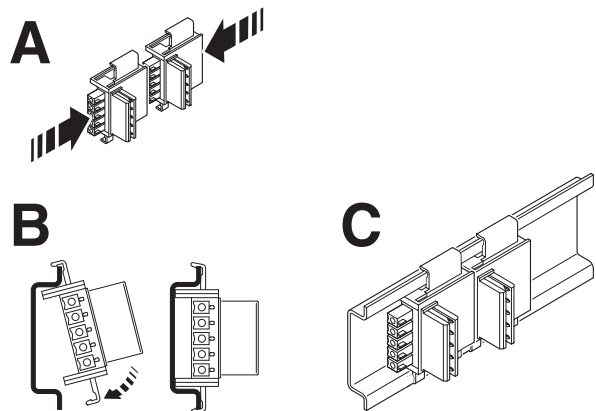

Figure 7 Combined assembly
- Connect together the required number of DIN rail connectors for the connection station. Two DIN rail connectors are required for each device (see A in Figure 7).